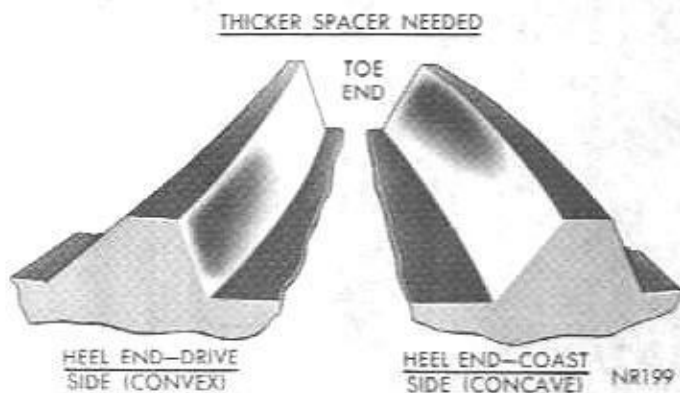
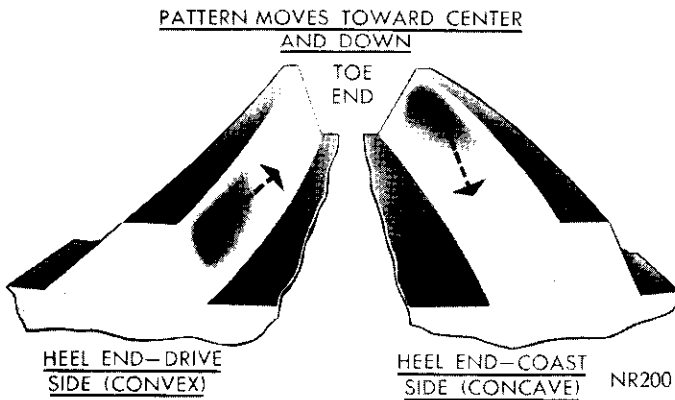

Fig. 28—Incorrect Tooth Contact Pattern (Increase Spacer Thickness)
Fig. 29—Effect on Tooth Contact Pattern as Spacer Thickness is Increased
(3) If after observing the contact pattern and you find it resembles that in Fig. 28, the drive pinion is too far away from centerline of the ring gear, the contact pattern will appear high on the heel on drive side and high on toe on coast side. To correct this type tooth contact pattern, increase the thickness of shim pack located behind the rear pinion bearing cup (Fig. 29), which will cause the high heel contact on drive side to lower and move toward the toe; the high toe contact on coast side will lower and move toward the heel.